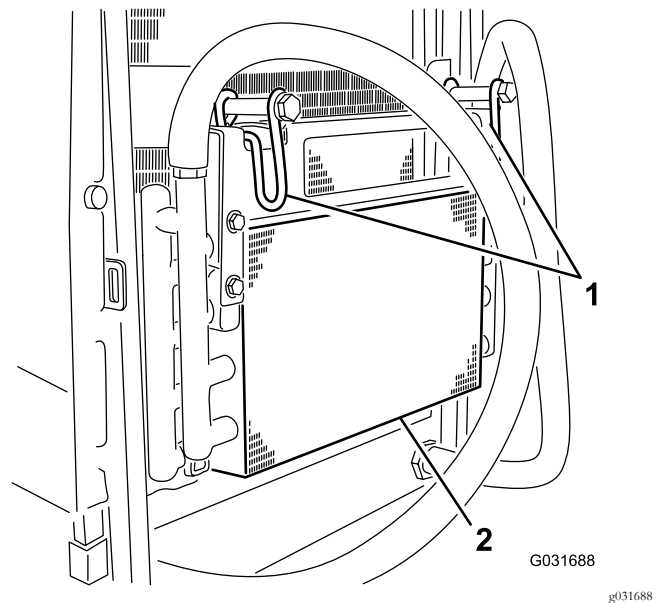

**Figure 51**
5. Pivot the latches inward to release the oil cooler (Figure 51).